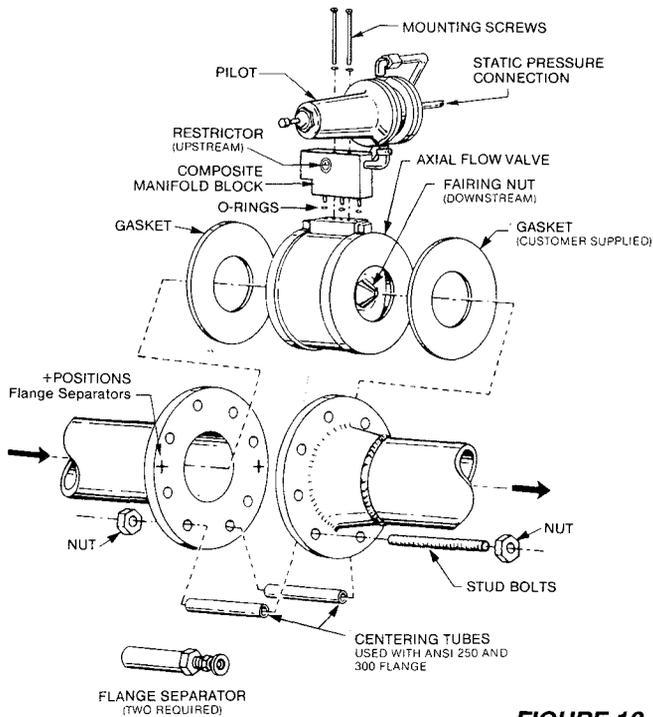

FIGURE 12
1. Assemble the control loop as indicated above (figure 12) with restrictor inlet position at the upstream of the Axial Flow Valve.